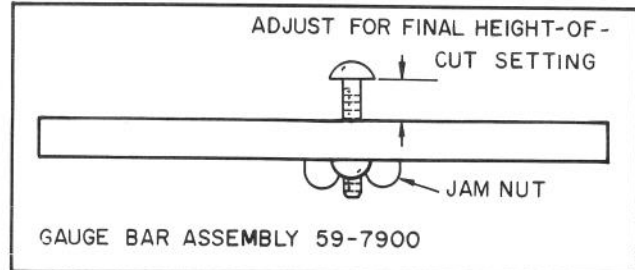
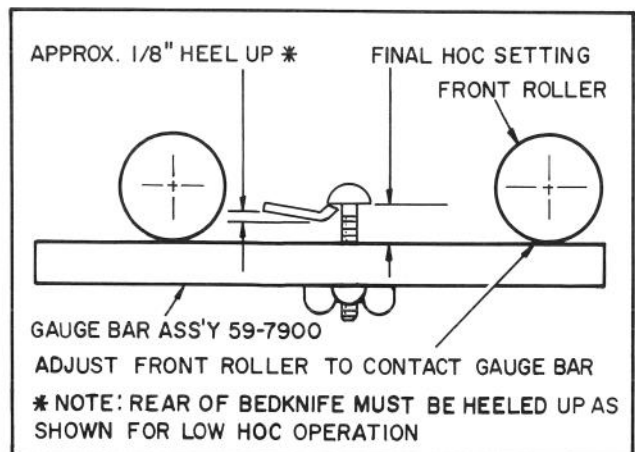

Figure 19
Figure 20
- H. Loosen the gauge bar jam nut and adjust the screw to set dimension between underside of screw head and gauge bar for desired height-of-cut. (Fig. 19). Tighten the jam nut to secure the adjustment. Hook screw head over cutting edge of bedknife and position bar against bottom of front roller (Fig. 20).
- I. Loosen front roller nuts and adjust both ends of the front roller until it contacts gauge bar at both ends. With the gauge bar held firmly against the bottom of the rollers adjust the front roller so the screw head just slips over the lip of the bedknife (Fig. 20). Tighten front roller nuts.